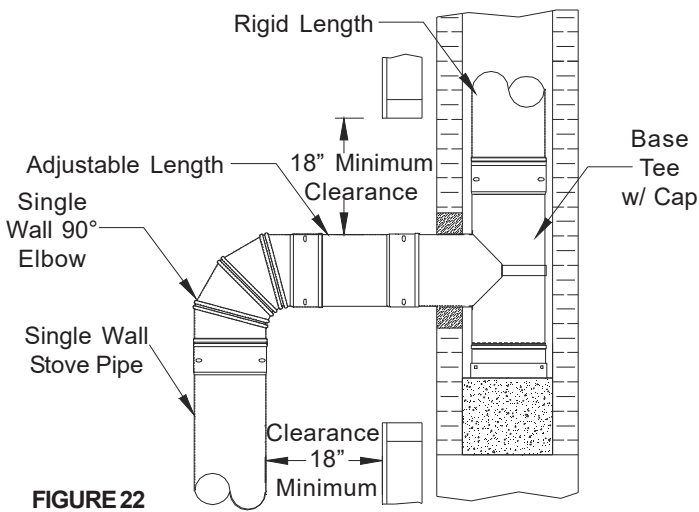
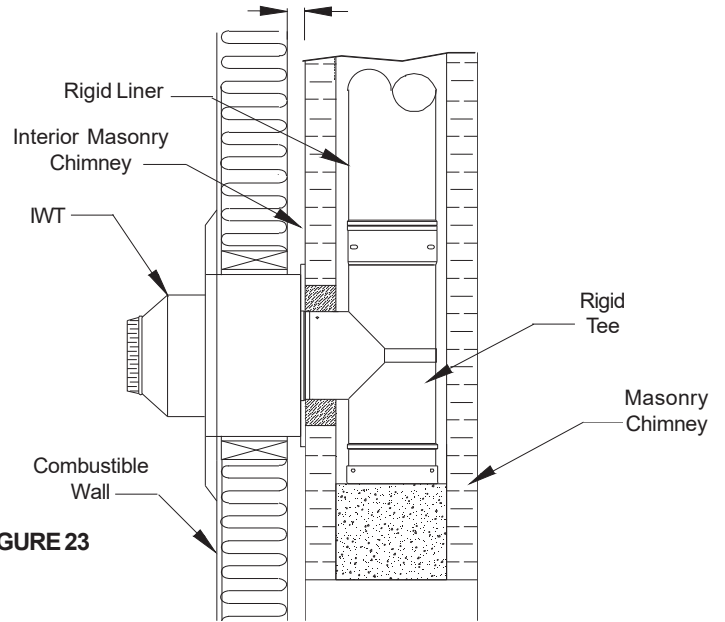

FIGURE 22
FIGURE 23
- Unless certified for lesser clearances, Code requirements for single wall uninsulated stove pipe and unprotected combustible material must not be less than 18" (457mm), see also Figure 22. Check your local codes for any restrictions and requirements. Selkirk's DSP or DCC Double Wall Stove Pipe can be installed at reduced clearance of 6" with the installation of the DSP or DCC Masonry Adapter. Follow the installation instructions supplied with the DSP or DCC. If a combustible wall is in front of the brick chimney through which your stove pipe passes, in order to install the appliance, a listed wall pass-through system or other approved methods (see NFPA 211 or CAN/CSA-B365) must be installed. See Section 16. for the Insulated Wall Thimble (DSP-IWT) by Selkirk and Figure 23.
- If the 18-inch clearance to combustible materials – as mentioned in Section 15. is not acceptable, an Insulated Wall Thimble (IWT) can be installed to reduce this clearance to two inches (see Figure 23). Follow the installation instructions supplied with the Insulated Wall Thimble DSP-IWT.